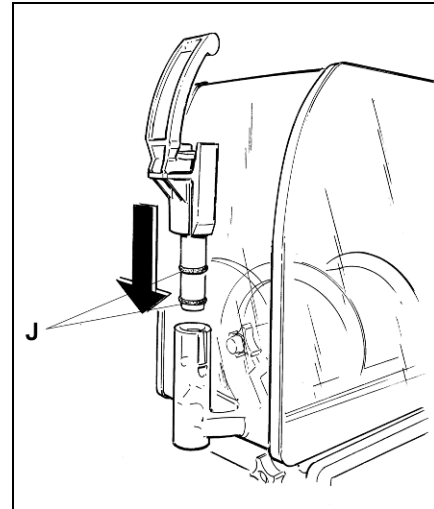

Fig. 27
- Reassemble the parts of the dispensing tap, making sure that the gaskets (J) are lubricated with Vaseline grease so that the tap slides smoothly back into its fixed position, until it's completely inserted (see figure 27).